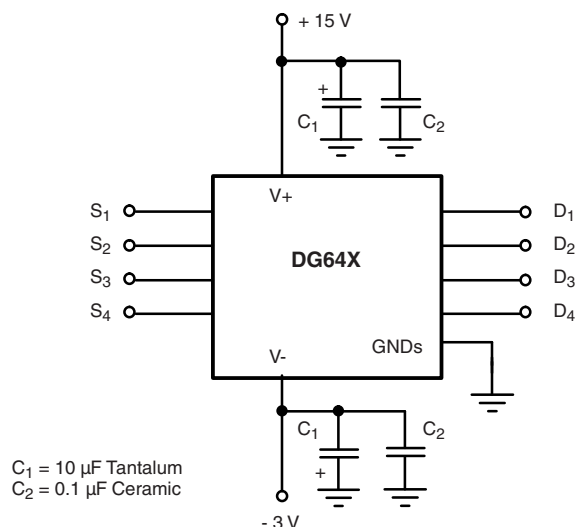

Figure 7. Supply Decoupling
1. Decoupling capacitors should be incorporated on all power supply pins ( $V_+$ ,  $V_-$ ). (see figure 7).